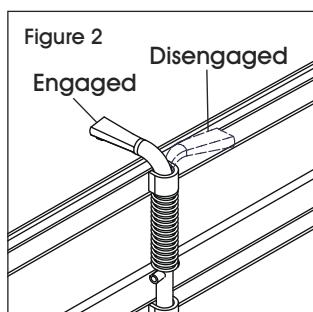

Figure 2
2. Install platform (B). Ensure it is fully seated and level in both side braces (C). Ensure the deck pins are in the engaged position. (See Figure 2)